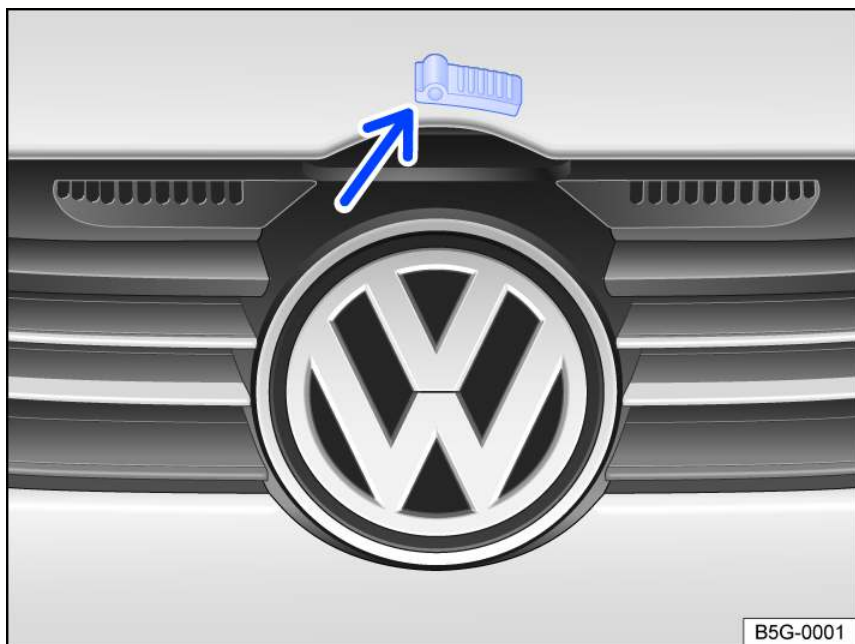
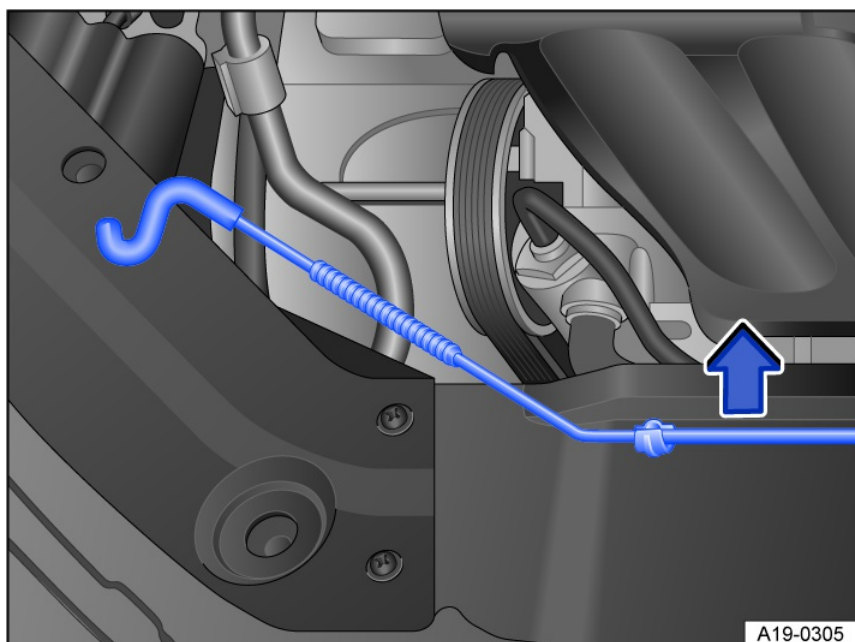
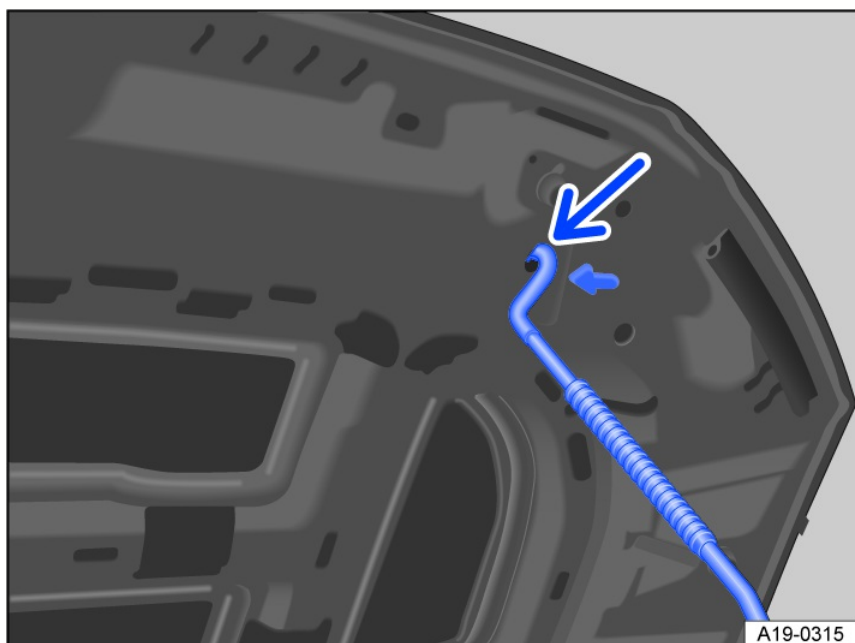

Fig. 135 Above the radiator grille: Opening lever for the hood (general example).
Fig. 136 In the engine compartment: Hood support bracket.
Fig. 137 On the engine hood: Hood support bracket.
2. Lift the engine hood slightly while at the same time pushing the opening lever in the direction of the arrow fig. 135 to open the engine hood fully.
3. Lift the hood support out of the bracket fig. 136 in the direction of the arrow and hook it into the opening fig. 137.
2. Unhook the hood support from the opening fig. 136 and clip it back into the bracket fig. 135.